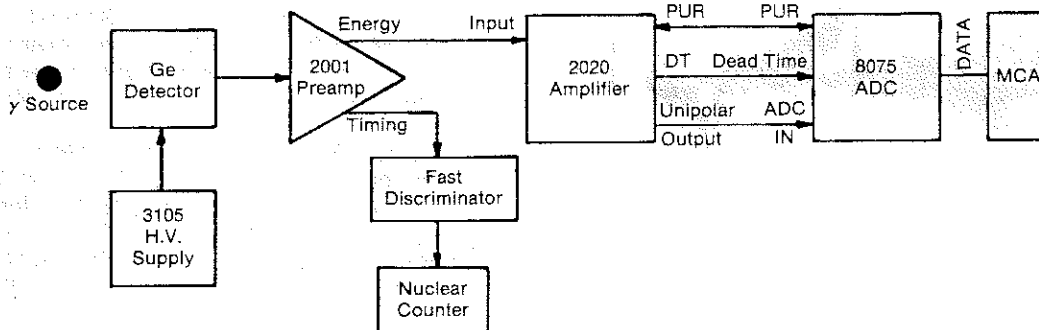

Figure 4.1
a. Connect the Model 2020 and 8075 ADC as shown in Figure 4.1.